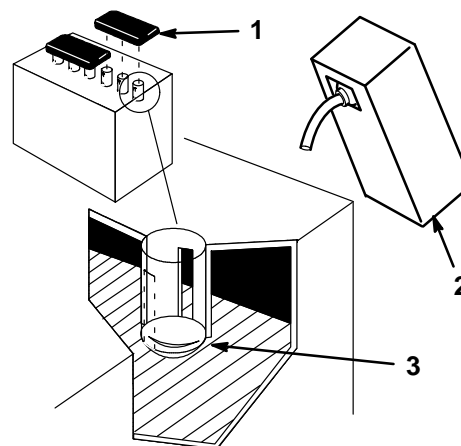

Figure 3
2. Remove the filler caps from the battery. Slowly pour electrolyte into each cell until the electrolyte level is up to the lower part of the tube (Fig. 3). Use an electrolyte with a specific gravity of 1.265.
5. Slowly pour electrolyte into each cell until the level is once again up to “UPPER” line on the battery case (Fig. 3), then install the filler caps.